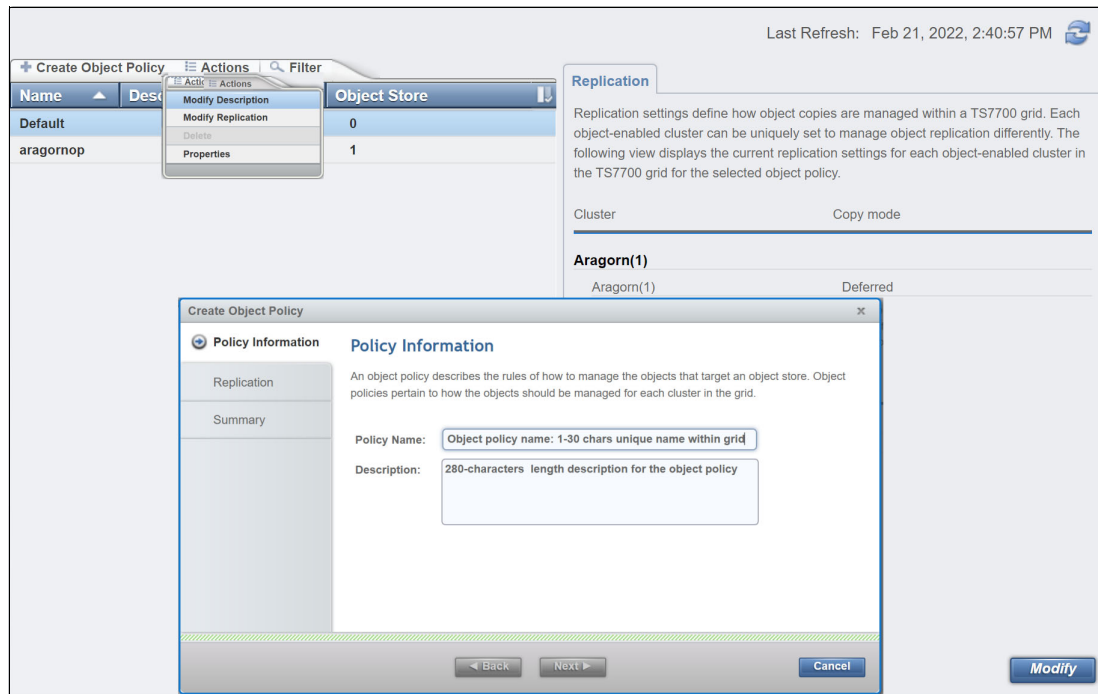

Figure 9-56 Object Policy page and Create Object Policy detail.
Figure 9-56 on page 449 shows the Object Policy page, and Create Object Policy detail.
1. Click **Create Object Policy** (see Figure 9-56).